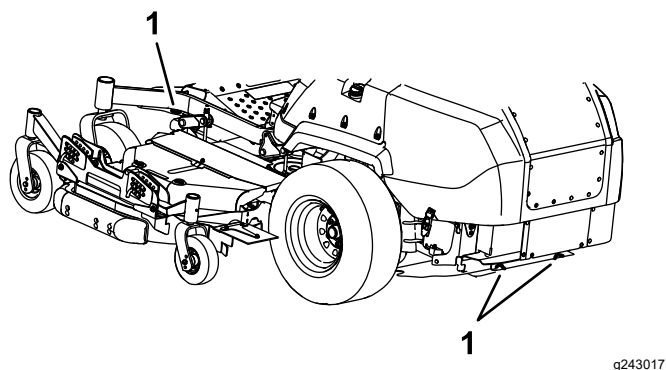

Figure 35
6. Tie down the machine near the front caster wheels and the rear bumper with straps, chains, cable, or ropes (Figure 35). Refer to local regulations for tie-down requirements.